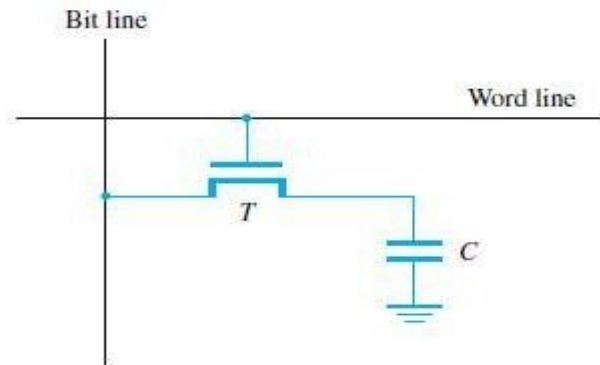

Figure 8.6 A single-transistor dynamic memory cell.
- In order to store information in the cell, the transistor T is turned „ON“ (Figure 8.6).